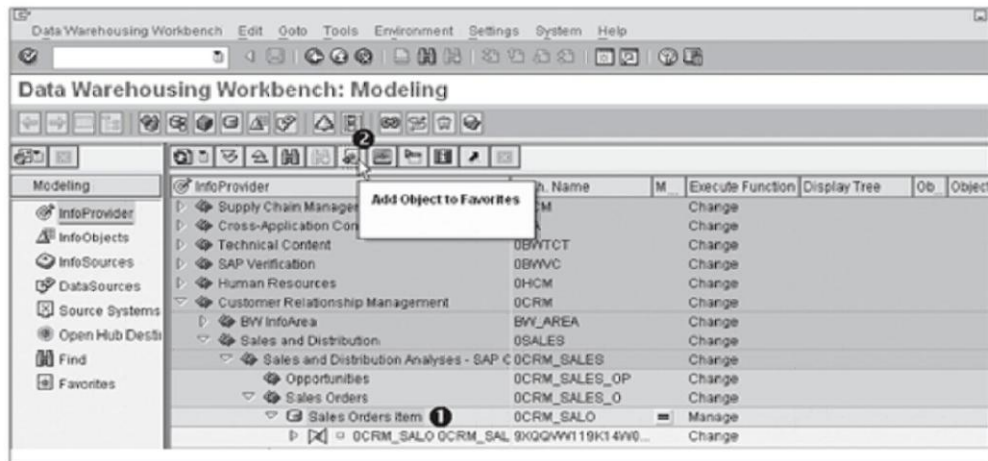

Figure 2.19 Adding an Object to Favorites
1. Select the object you want to mark as a favorite (❶ of Figure 2.19).
2. Click on Add Object to Favorites (❷). SAP NetWeaver BW displays a message stating that the object has been added to the Favorites list.